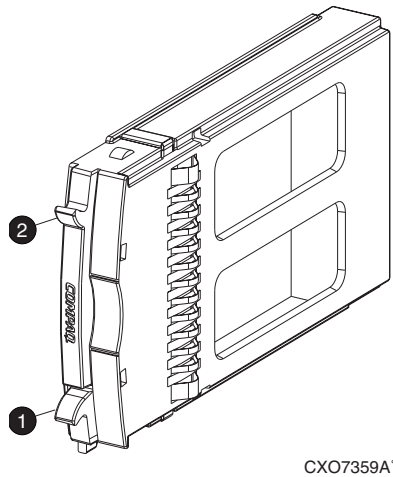

Figure 73: Installing and removing a drive blank
4. Insert the drive blank into the enclosure bay until locking tabs ❶ and ❷ engage the enclosure. See Figure 73.
1. Grasp the drive blank by the two tabs, ❶ and ❷ in Figure 73.
2. Lift up on the bottom tab ❶ and pull the blank out of the enclosure.